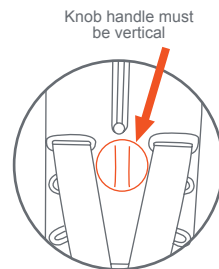

Fig. 36-1
- Knob must remain in vertical position after adjustment (Fig 36-1).